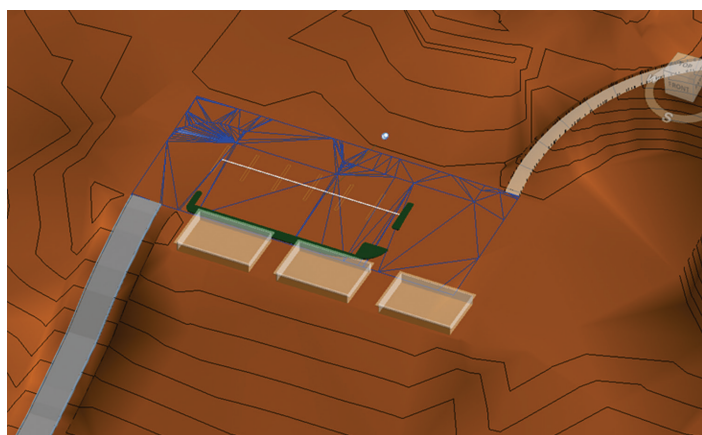

Figure 2: Parking lot imported dwg
5. Undo the split surface command (or merge the surfaces) so that there is no “hole” in the site topography element. Insert the newly exported dwg as origin to origin, level orient to view, in the project environment. It is also a good idea to change the color to black and white so the mesh lines are easier to see as shown in Figure 2.
6. The dwg insert should line up perfectly with the site topography element. You know you have it in the right location when there are many mesh lines that show up in the same location as the topo, as in Figure 2.